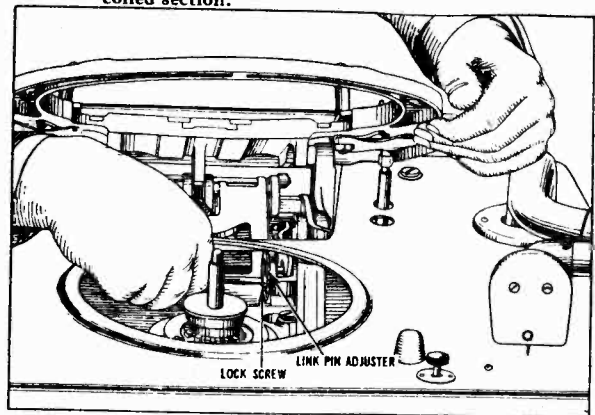

Fig. 4—Adjusting Link Pin Adjuster
- b. Loosen the lock screw in the link pin adjuster as shown in Fig. 4.